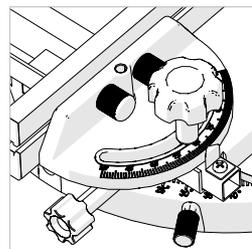

Fig. 22
- Use a #2 Phillips Head screwdriver to loosen the Angle Pointer fixing screw. (**Fig. 22**) Adjust the pointer to suit and then retighten the fixing screw.